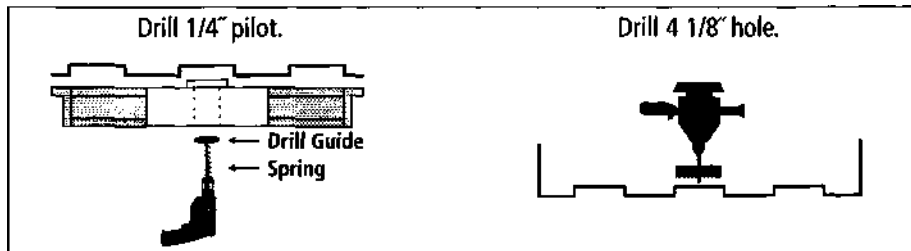

FIGURE 4
Step 5: (figure 4) Chuck a 1/4 inch drill bit in a small drill (small enough to fit between the differential and the truck bed) and position the spring then the drill pilot plate over the drill bit as shown. From under the truck, guide the drill and pilot assembly through the bottom of the Cody Hitch receiver sleeve in the center beam. Be sure the spring is holding the pilot plate against the bottom of the truck bed and drill a 1/4 inch hole through the bed, bed liner and or mat if present. If a bed liner or mat are present, be sure they are positioned and centered properly before drilling.